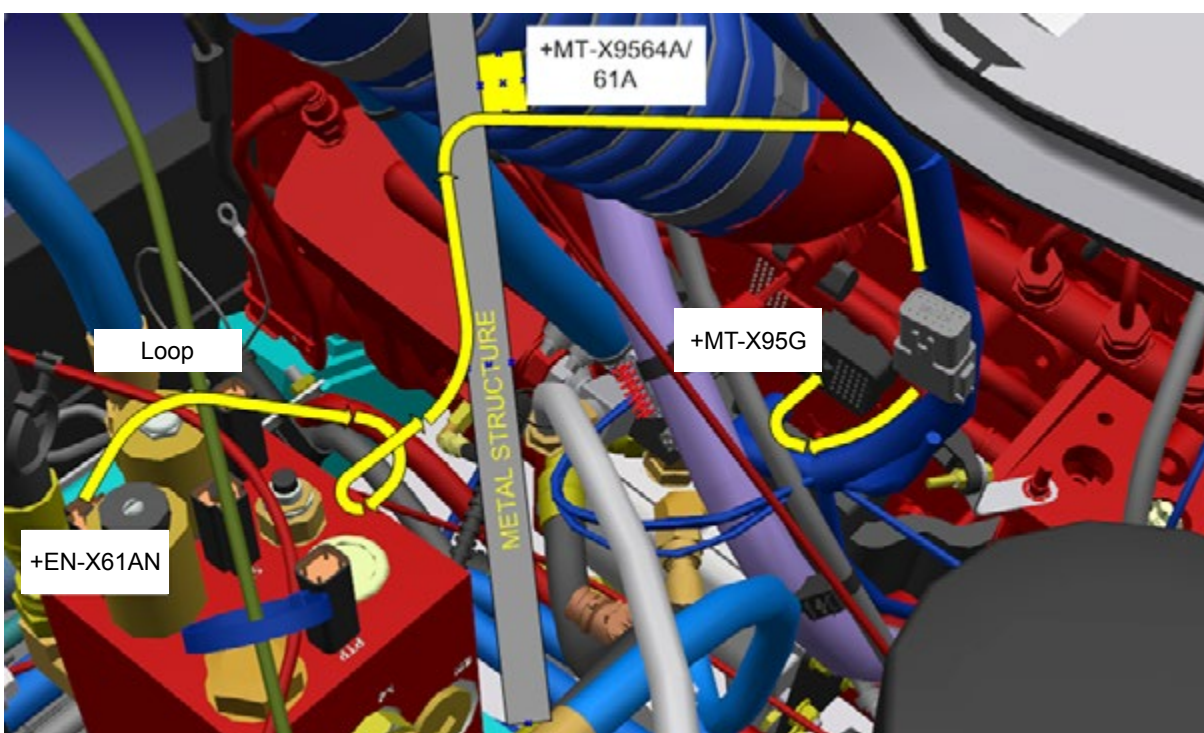

Figure 8 - Routing of the New N632000451
- 1.16. Route the new N632000451 wire kit with a loop. Attach it to the metal structure, go under the +MT-X9564A/61A connector and follow the other vehicle wiring up to the +MT-SC95C connector. See Figure 8. Secure the wire kit with G5007996 cable ties.
- 1.19. Locate the +MT-X9561A connector in the engine compartment. See Figure 8.